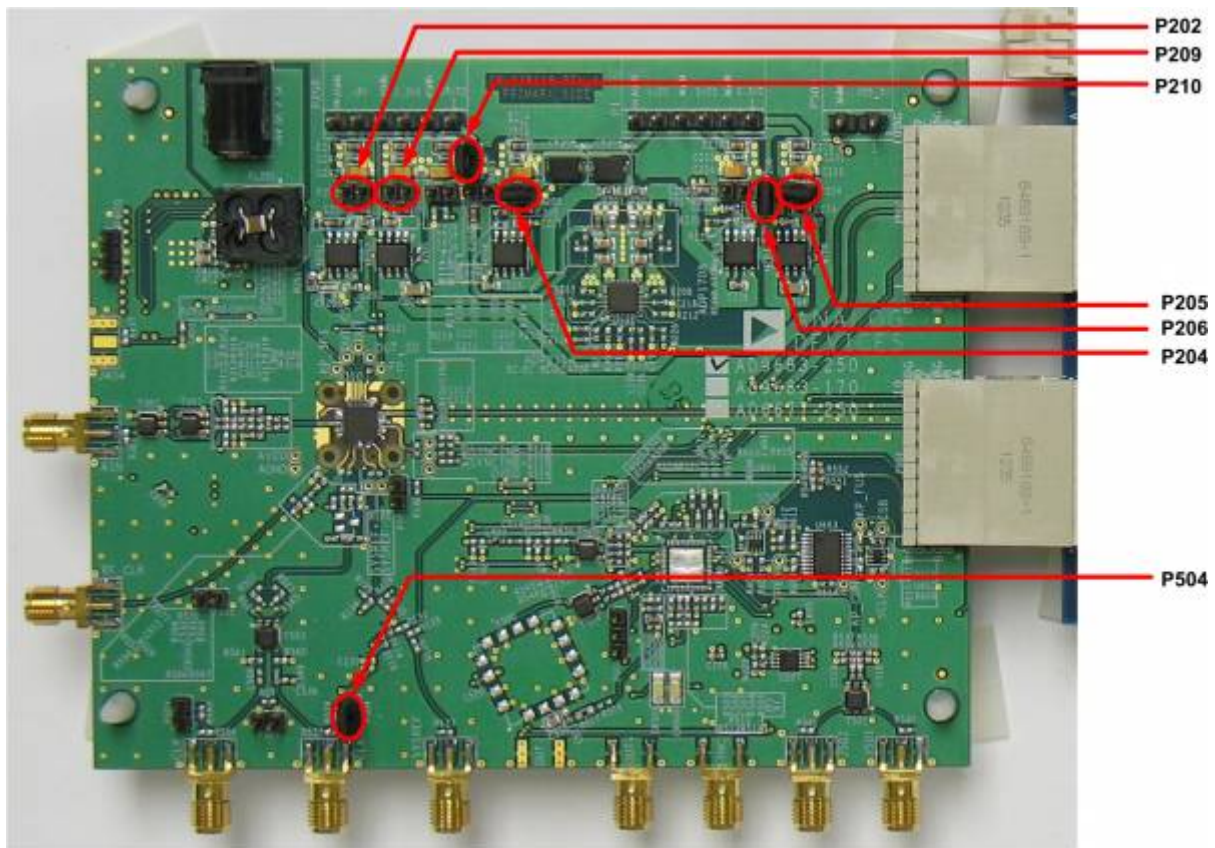

Figure 2. Default Jumper Connections for AD9683-170EBZ/AD9683-250EBZ/AD6677EBZ Board
5. On the ADC evaluation board, confirm that the jumpers are installed at P202, P209, P204, P205, P206, and P210 as shown in Figure 2 and Table 1.
Set the jumper settings/link options on the evaluation board for the required operating modes before powering on the board. The functions of the jumpers are described in Table 1. Figure 2 shows the default jumper settings.